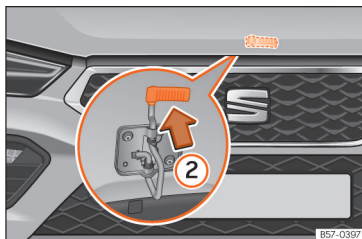

Fig. 219 Cam under the bonnet
- To lift the bonnet, press the release catch under the bonnet upwards »» Fig. 219 ②. The arrester hook under the bonnet is released.